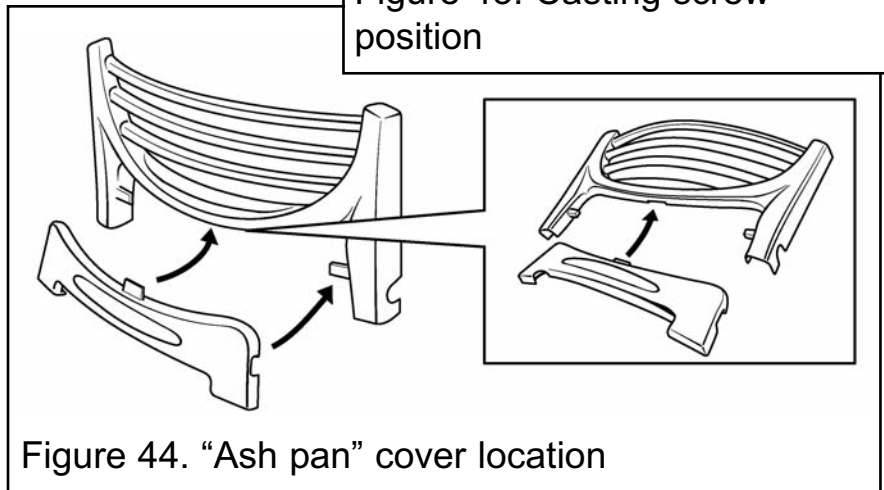

Figure 44. "Ash pan" cover location
**14.5.3** Fit the "ash pan" cover below the front casting locating it as shown in figure 44.